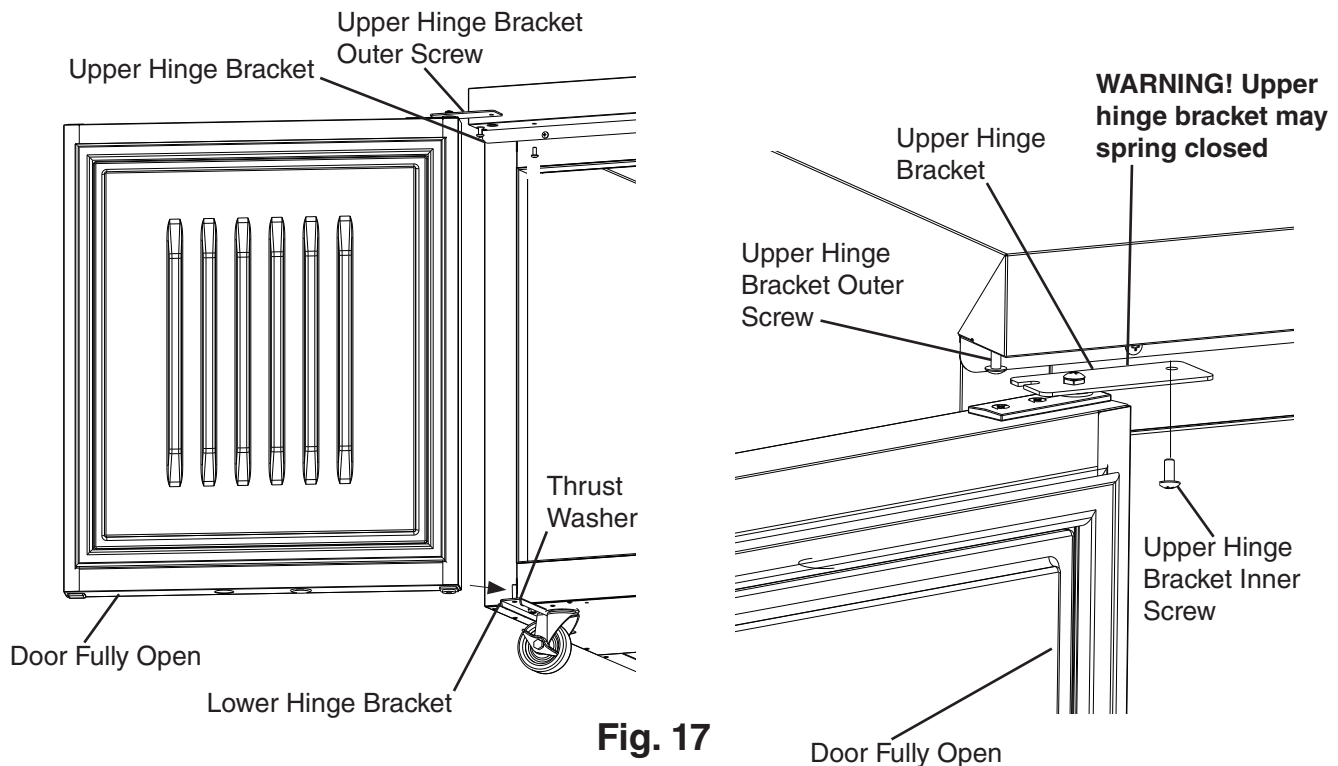

**Fig. 17**
- 14) Be sure the lower hinge bracket thrust washer is in place, then place the door on the lower hinge bracket in the fully open position. Slide the door upper hinge bracket outer slot onto the upper hinge bracket outer screw. See Fig. 17.